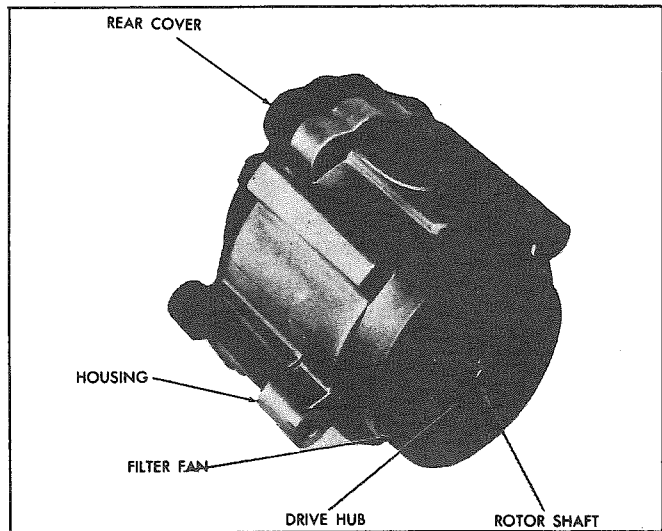

Figure 58 - Air Injection Pump
**AIR INJECTION REACTOR SYSTEM (AIR)** - The Air Injection Reactor System (AIR) consists of: an air injection pump (with necessary brackets and drive attachments), air diverter valve, a check valve and air pipe hose necessary to connect diverter valve (see figures 58 and 59).
The air injector pump (see figure 58) with an integral filler, compresses the air and injects it through the air manifolds, into the exhaust system in the area of the exhaust valves. The fresh air helps burn the unburned portion of the exhaust gases in the exhaust system, thus minimizing exhaust contamination.